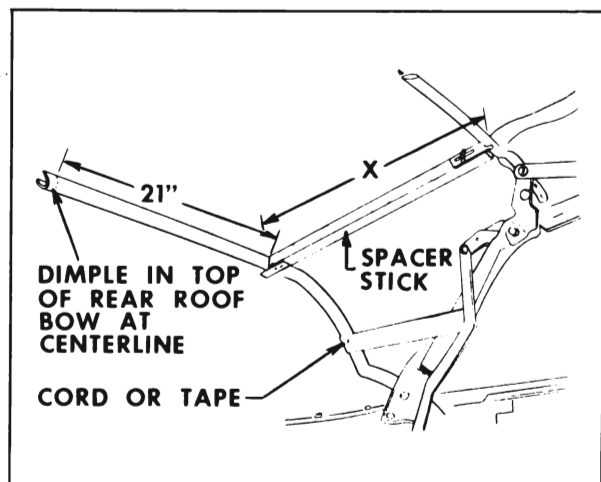

Figure 7-25—Installation of Spacer Stick
11. Lock top to windshield header. Install radius end of each adjustable spacer stick to fit against center roof bow. Install opposite end of spacer stick so that metal plate fits under rear roof bow (see Figure 7-25). Spacer sticks should be installed along inboard edge of side stay pad or approximately 21" outboard from centerline dimple of rear roof bow (see Figure 7-25). While exerting rearward pressure on rear bow to draw side stay pads taut,
12. Temporarily tie or tape rear bow to rear side roof rails (see Figure 7-25). Detach side stay pads and back curtain with integral quarter stay pads from rear bow.
1. If new top is being installed but it was impossible to perform step 11 of removal procedure, preset spacer sticks to shortest length and install between center and rear roof bow (see Figure 7-25). Adjust sticks so that dimension "X" in Figure 7-25 (measured along spacer stick from front upper rolled edge of rear roof bow to center of center bow) is approximately 16-1/4". Tie or tape rear bow to rear side roof rails.